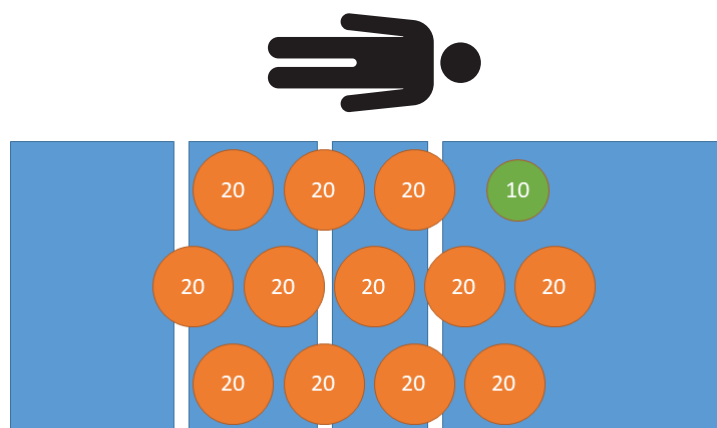

Figure 11 – Pre-load - 250 kg
27. Using calibrated weights, pre-load the product to 250 kg (Figure 11).